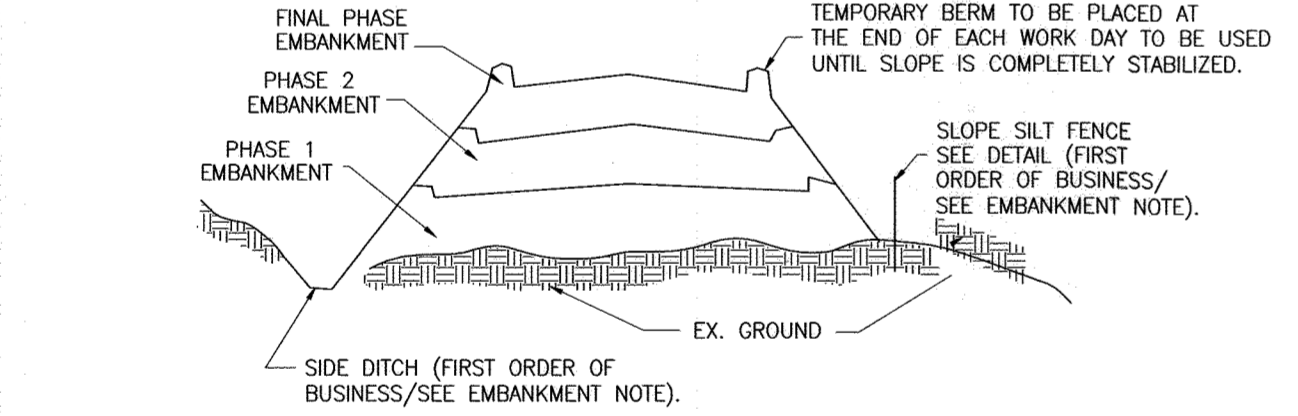

FIGURE B.2: INCREMENTAL STABILIZATION - FILL
- B.3. AT THE END OF EACH DAY, INSTALL TEMPORARY WATER CONVEYANCE PRACTICE (S), AS NECESSARY, TO INTERCEPT SURFACE RUNOFF AND CONVEY IT DOWN THE SLOPE IN A NON-EROSIVE MANNER.
- B.4. CONSTRUCTION SEQUENCE EXAMPLE (REFER TO FIGURE B.2.):